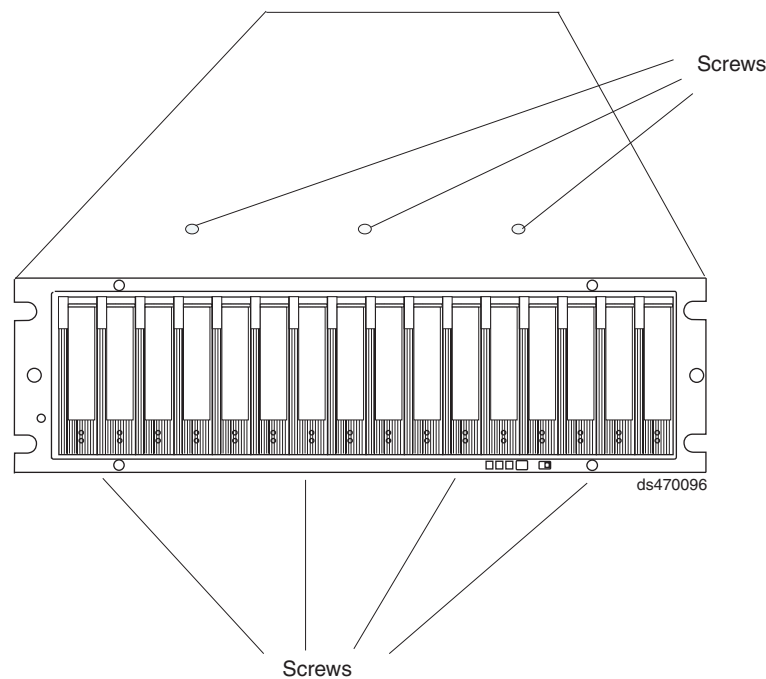

Figure 40. Screws holding the top and bottom sides of the chassis to the cage frame
13. Pull the chassis outward from the front of the rack and remove from the rack. Place it on a level surface. Look for a row of three Phillips screws on top of the chassis and a row of four Phillips screws on the bottom of the chassis, as shown in Figure 40. Remove the seven Phillips screws using the #1 Phillips screwdriver. Save these screws.
18. Install the seven Phillips screws (three on top and four on bottom) that hold the front cage frame to the EXP520 chassis that you removed in step 13 on page 89, as shown in Figure 40 on page 89.